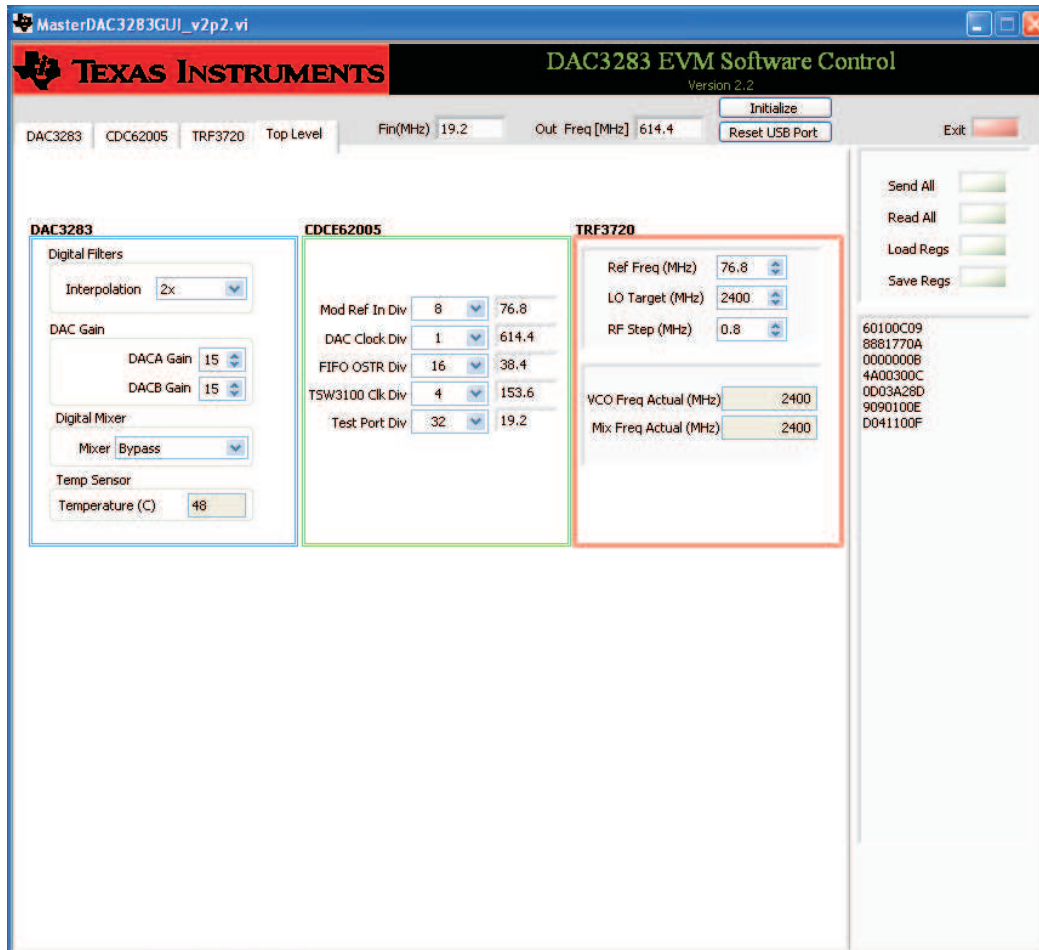

Figure 4. DAC3283 EVM Software Configuration
- (b) Configure the Top Level Tab to be the same as Figure 4. Set *Test Port Div* to be 32 to set the reference frequency of 19.2MHz. All other settings should be default. The DAC interpolation, FPGA clock (TSW3100 CLK), and the FIFO OSTR clock can be configured based on the data rate, FPGA configuration, and system requirement. For more information, please refer to the DAC3283 datasheet.